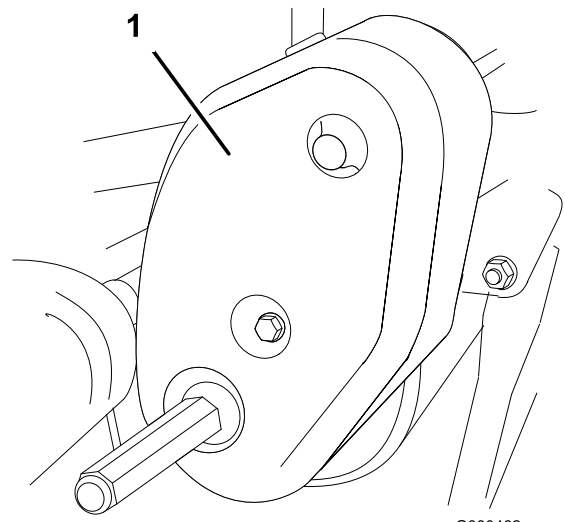

Figure 38
1. Remove belt cover mounting fasteners and belt cover to expose belt (Figure 38).